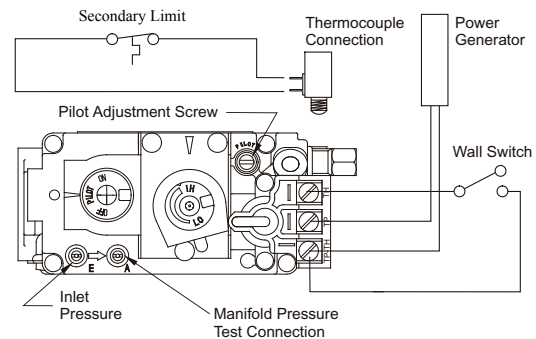

Figure 19. *Sit Nova 820* gas valve.
- Have the fireplace installation inspected yearly, including a visual check of the vent system, the burner and the pilot flame. For convenience a 1/8" manifold pressure tap is supplied on the gas valve for a test gauge connection. See Figure 19.
Pilot won't ignite	Disconnect remote wires and try to light pilot. If pilot now works, remote connections are faulty. Check wiring diagram figure 19 .
Main burner will not light	<ol style="list-style-type: none"> 1. Check wiring (see figure 19) 2. Check wall switch for proper connection. 3. Check pilot burner. If extinguished: <ol style="list-style-type: none"> a. Allow fireplace to cool, then try to relight. b. If condition persists, call a qualified service person.